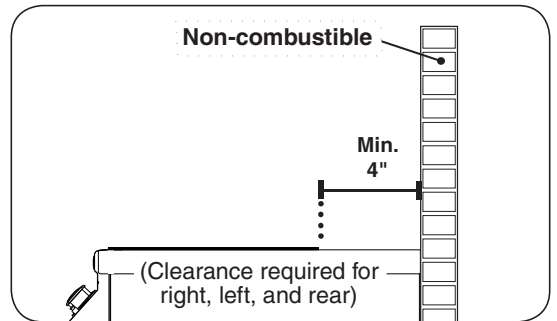

Fig. 9-2 Clearance 'A' Diagram
A. Clearance between unit and strictly non-combustible wall (i.e. brick wall, see Fig. 9-2)